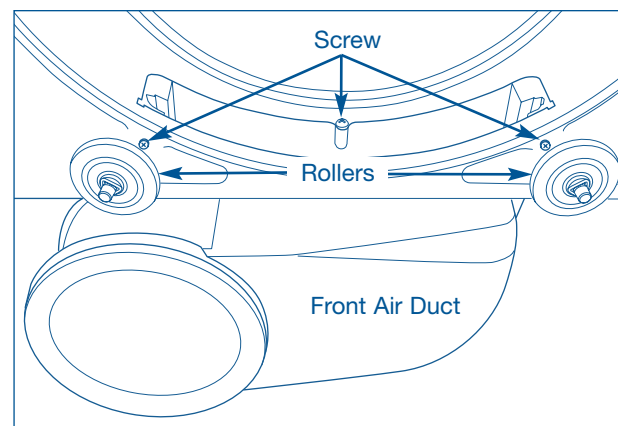

Figure 4-32.
**NOTE:** With the drum removed, all roller assemblies are accessible. Figure 4-32 illustrates the front roller assemblies.
3. Using a #2 square bit screwdriver, extract the three screws securing the front air duct to the front inner panel. (See Figure 4-32)